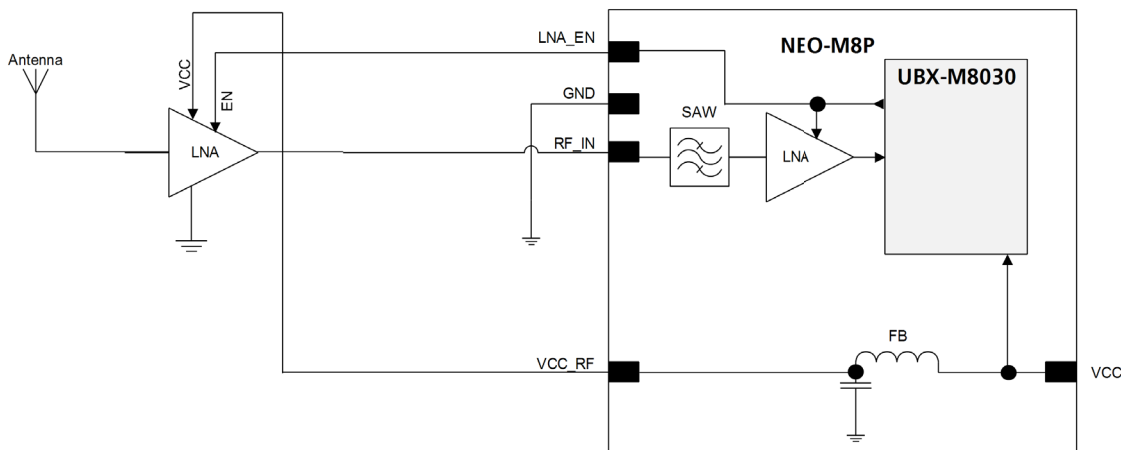

Figure 7: Module design with passive antenna and external LNA (for exact pin orientation see NEO-M8P Data sheet [1])
- Figure 7 shows a design using an external LNA to increase the sensitivity for best performance with passive antenna.